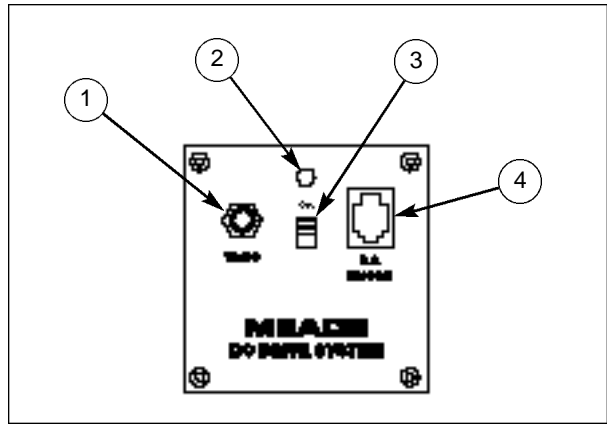

Fig. 2: Control Panel. (1) 12VDC Outlet; (2) LED Indicator Light; (3) On/Off Switch; (4) R.A. Encoder Plug.
The R.A. encoder plug (4), Fig. 2, is used if the Magellan I Computer System is purchased for the Meade 16" Starfinder. Details of how this additional encoder plug is used can be found
The On/Off switch (3), Fig. 2, activates the DC motor drive system (described on page 9). When the switch is "on", a red LED will illuminate. When the red LED on the panel shines steadily, the system is working properly and the battery is sufficiently charged. When the LED begins to blink, this indicates the internal battery pack is losing its charge and will soon need to be replaced.